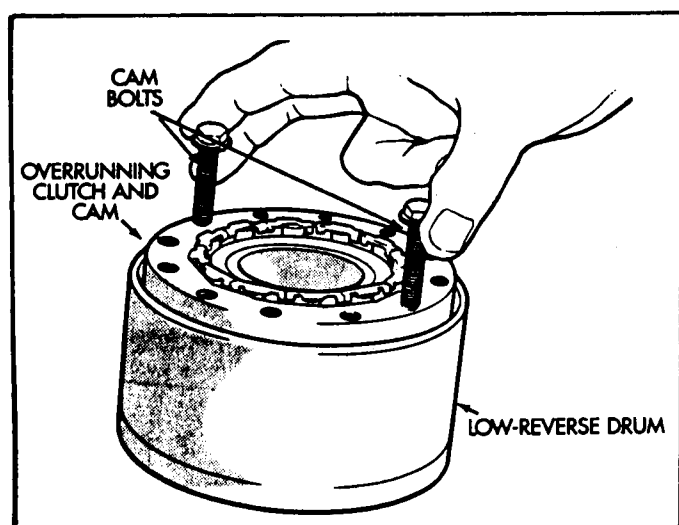

Figure 33
8. If the overrunning clutch and cam came out with the low/reverse drum, thread two cam bolts into the cam, as shown in Figure 33.
9. Lift the clutch and cam out of the drum with the bolts (See Figure 33). Rotate the cam if necessary to ease removal.